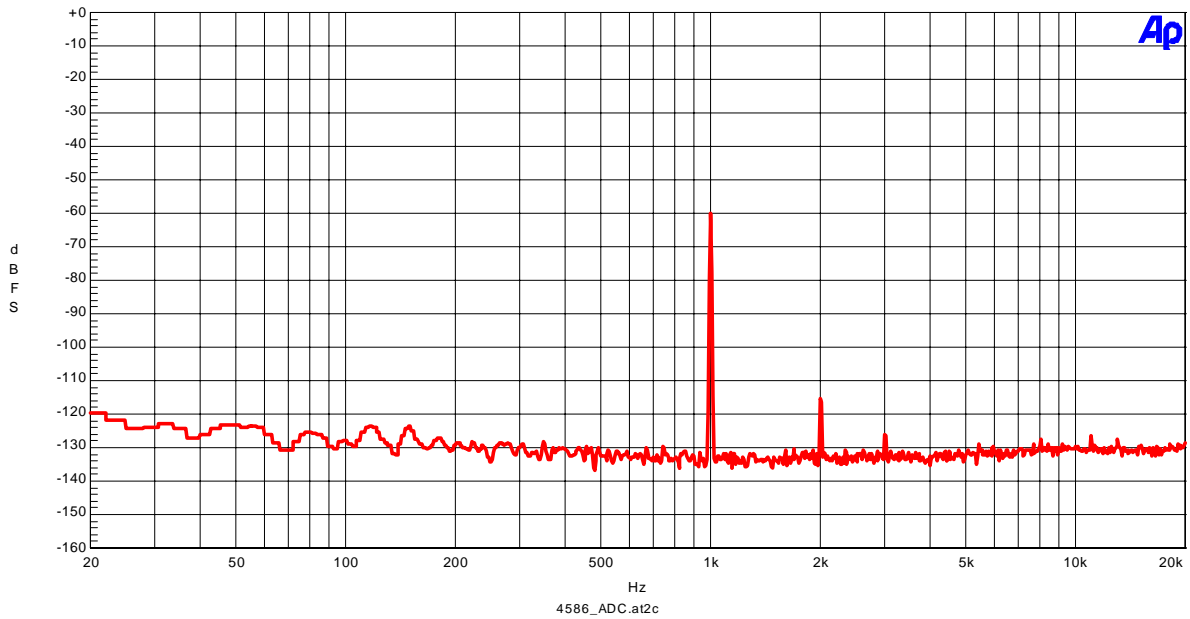

Figure 1-2. FFT (1kHz, -60dBFS input)
- Figure 1-2. FFT (1kHz, -60dBFS input)